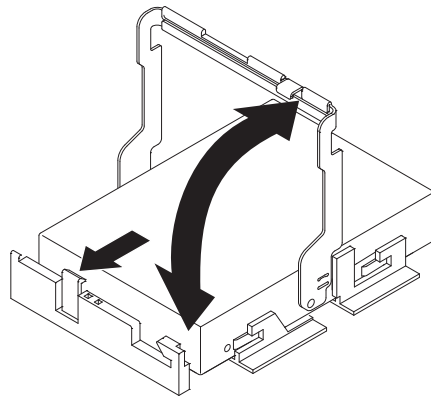

Figure 48. Raising the drive handle
a. Raise the drive handle to the vertical position, as shown in Figure 48.